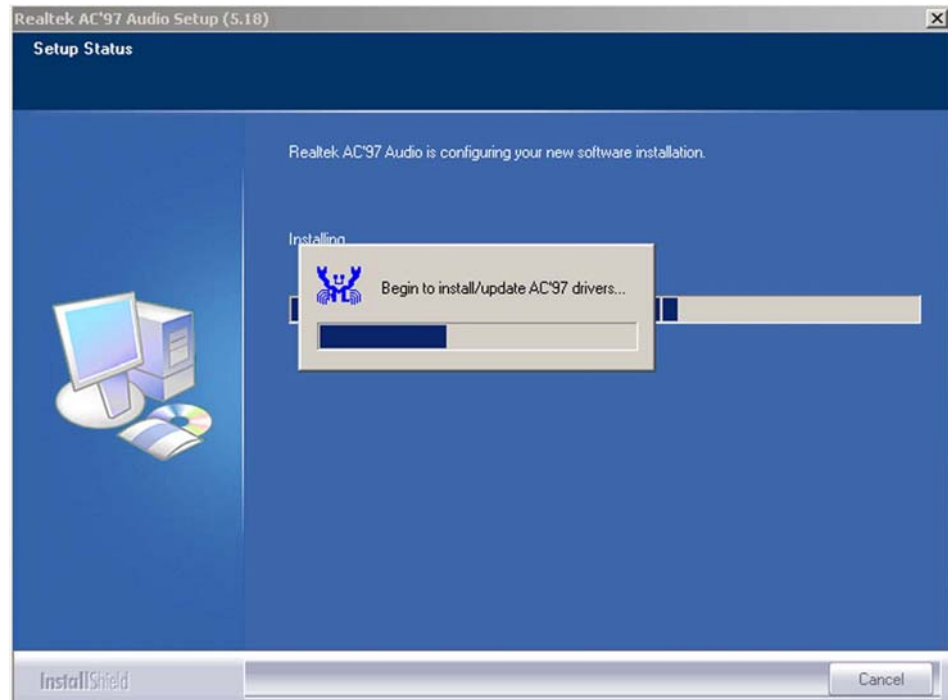

Figure 6-17: Audio Driver Installation Begins
Step 6: At this stage the clicking the “**YES**” button in **Figure 6-16** appears, the installation of the driver begins. See **Figure 6-17**.